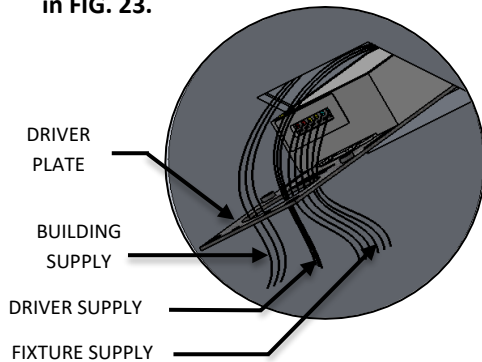

FIG. 22- DETAIL SHOWING BUILDING SUPPLY AND DRIVER WIRE
17. Slide DRIVER PLATE into the box with the DRIVER facing up. as you slide the plate in, make sure you pull the BUILDING SUPPLY connections through the large hole in the DRIVER PLATE as shown below in FIG. 22 and other wires will already be through the center hole.